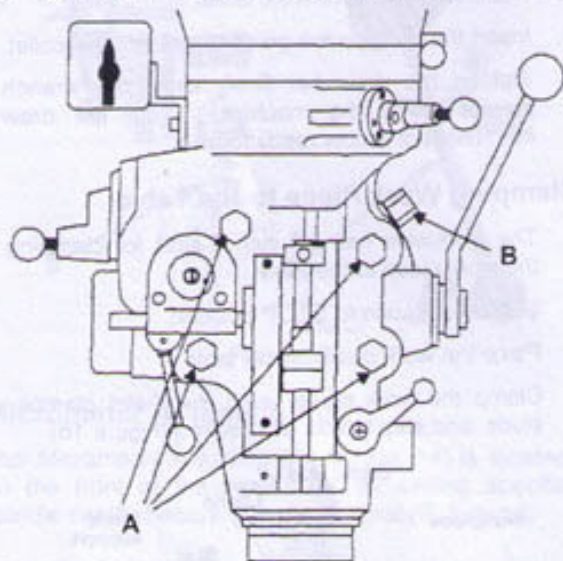

Figure 19
1. Loosen four large hex nuts that secure the mill head to the ram adapter (refer to Figure 19).